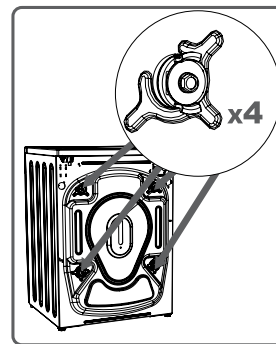

Fig 1
- 1:** Loosen the screws by rotating counterclockwise with a suitable wrench. (Fig 1 2)